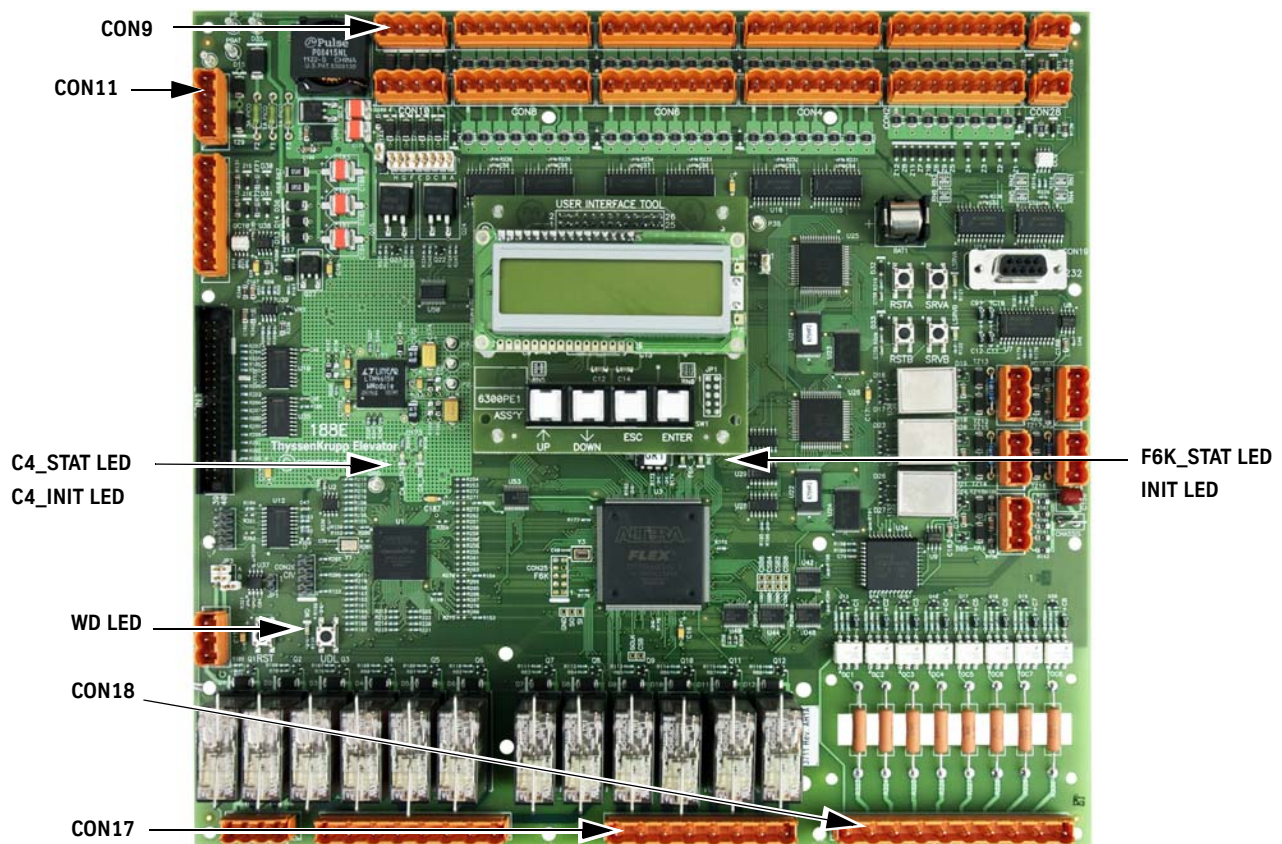

Figure 17 - 188E CPU Card
6. Connect CON9, CON11, CON17, and CON18 on the 188E CPU card. See Figure 17.